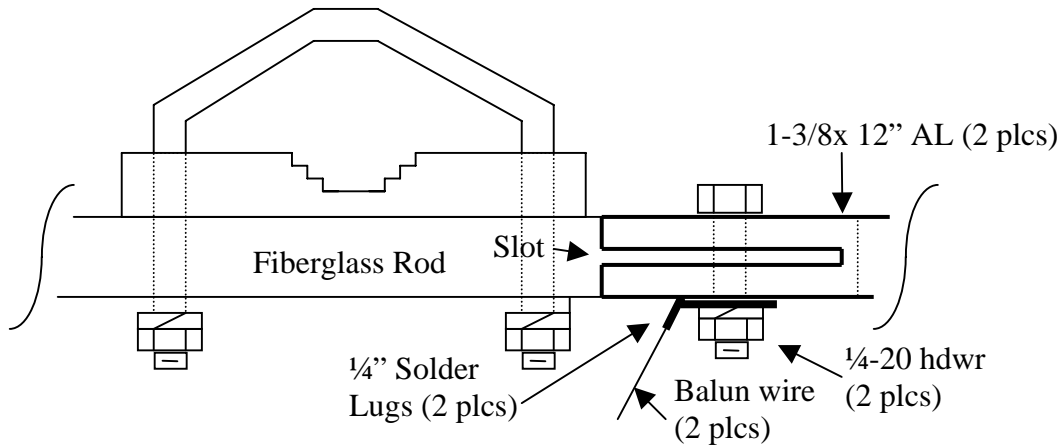

Figure 2: Center Insulator Assy – Top View
- 4) Slide the 1-3/8 x 12" aluminum tubes over each side of the center insulator assembly. Insert the 1/4-20 bolts through the aluminum tube/fiberglass assembly. Add the 1/4-20 split lockwashers and nuts and fasten loosely, as the feedline will be connected to this hardware later on. See Figure 2.